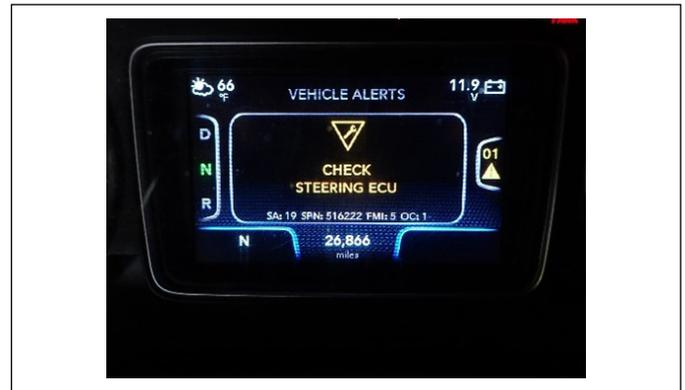

Figure 11 – Check Steering ECU Alert
1. Determine if there are any active driver alerts on the driver display. Specifically check if the *Check Steering Electronic Control Unit (ECU)* alert is active. See Figure 11.